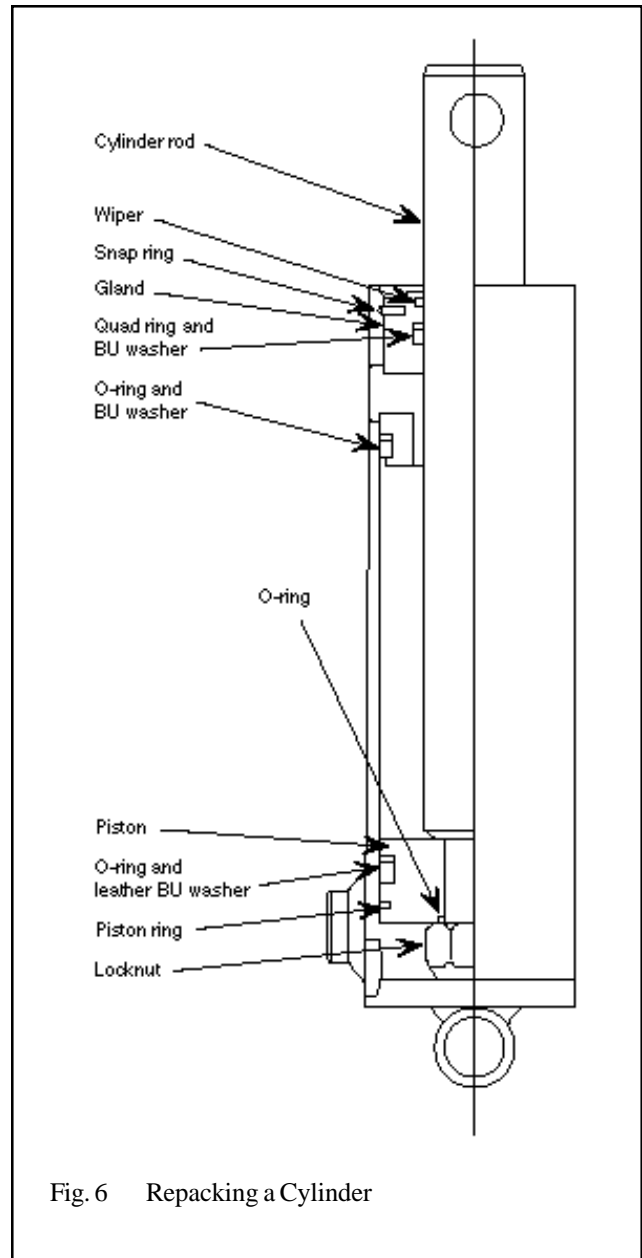

Fig. 6 Repacking a Cylinder
2. Figure 6 shows the parts inside a cylinder. Secure the cylinder in a vise so that it cannot turn. Clear the work area so that you can lay the parts on a clean surface.